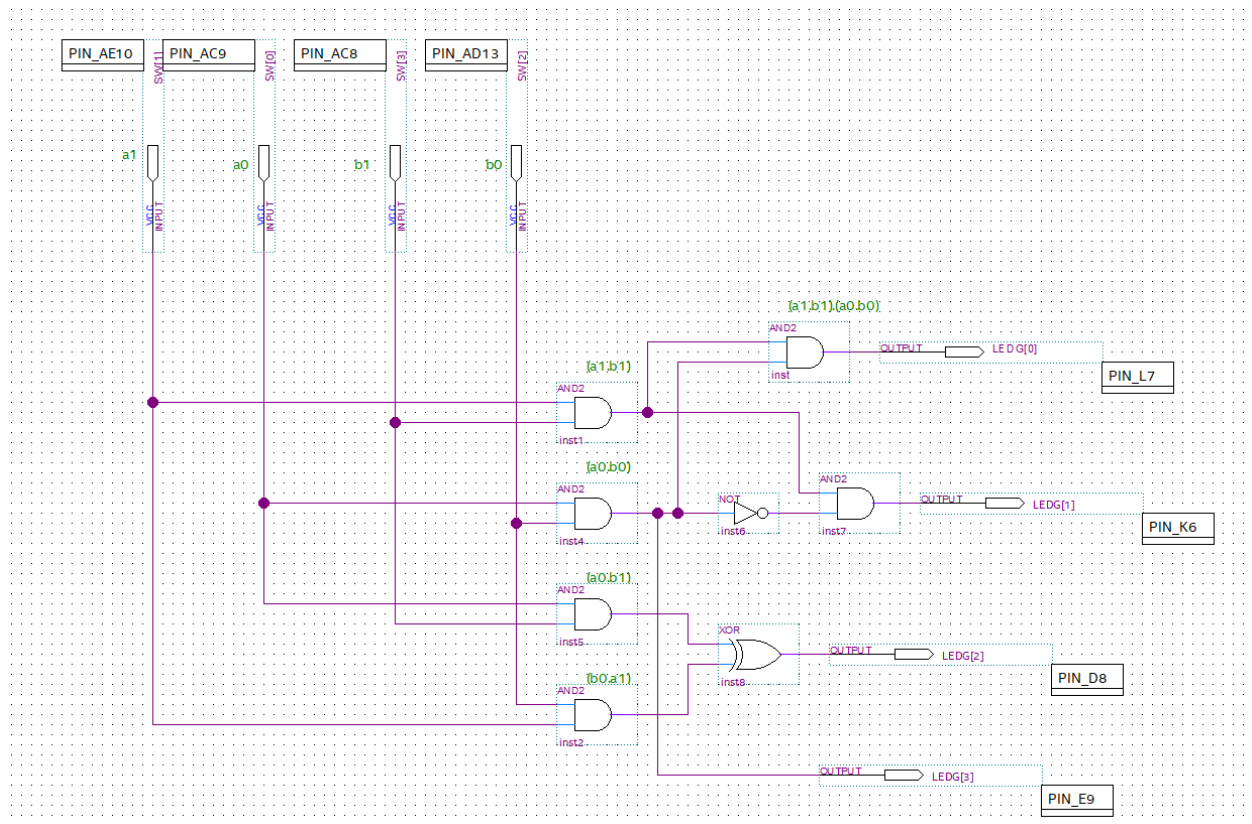

Figure 9: Schematic entry for the reduced digital circuit shown in Figure 3.1 in the lab manual
2. The schematic entry for the reduced circuit is shown in **Figure 9** below. The total number of gates in this reduced circuit is **8 gates**.